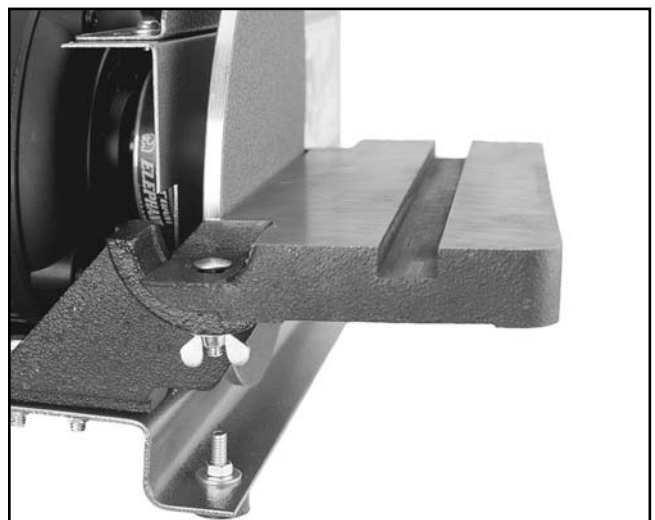

Figure 12. Disc table attachment.
13. Secure the Disc Table to its support bracket using the two (2) $\frac{1}{4}$ " - 20 x $1\frac{1}{4}$ " carriage bolts, two (2) $\frac{1}{4}$ " flat washers and two (2) $\frac{1}{4}$ " - 20 wing nuts. **See Figure 12**.